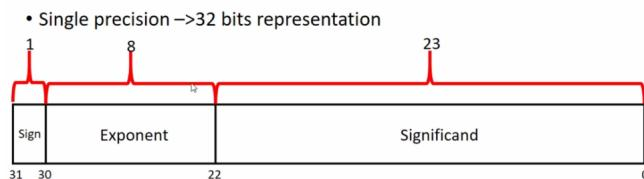

Figure 3.19: IEEE-745 Single Precision
1. Single precision shown in Figure 3.19.